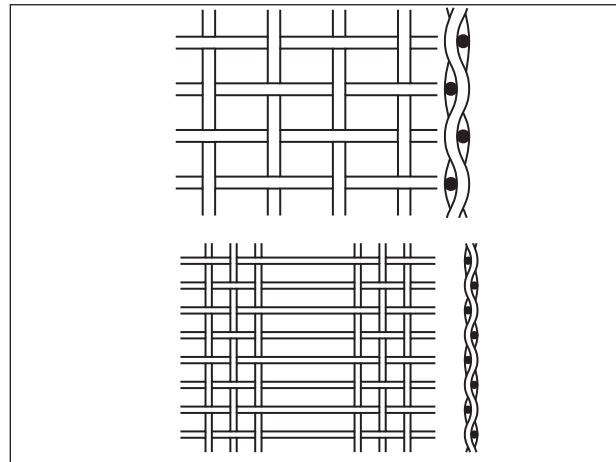

Figure 9.74 - Slotted opening
- Slotted opening (Figure 9.74) - Primarily used as a special application wire cloth. It can be effective in reducing blinding when feed material is sticky. It also has a larger open area of the cloth that enables the screen deck to accept more feed material. Longer slots aid in the removal of flat and elongated material.
For 1 inch slots or less use single cross wire as shown in the top image in Figure 9.74. For slots greater than 1 inch use a cluster of triple cross wires as shown in the bottom image in Figure 9.74.